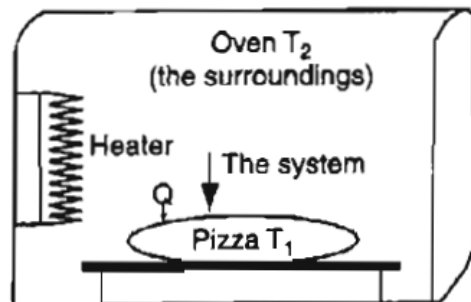

Figure 21.3 Heat transfer is energy crossing the system boundary because of a temperature difference.
In a discussion of *heat* we enter an area in which our everyday use of the term may cause confusion, since we are going to use heat in a very restricted sense when we apply the laws governing energy changes. **Heat (Q)** is commonly defined as that part of the total energy flow across a system boundary that is caused by a temperature difference (potential) between the system and the surroundings (or between two systems). See Figure 21.3. Engineers say “heat” when meaning “heat transfer” or “heat flow.” Heat is neither stored nor created. **Heat is positive when transferred to the system.**